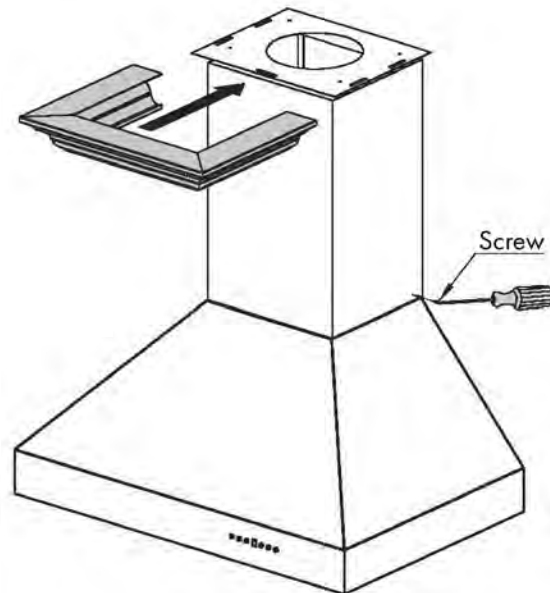

Figure 10
3. Attach the telescoping chimney sections to the range hood as noted on page 12, then connect the chimney to the crown molding bracket. *Figure 10*